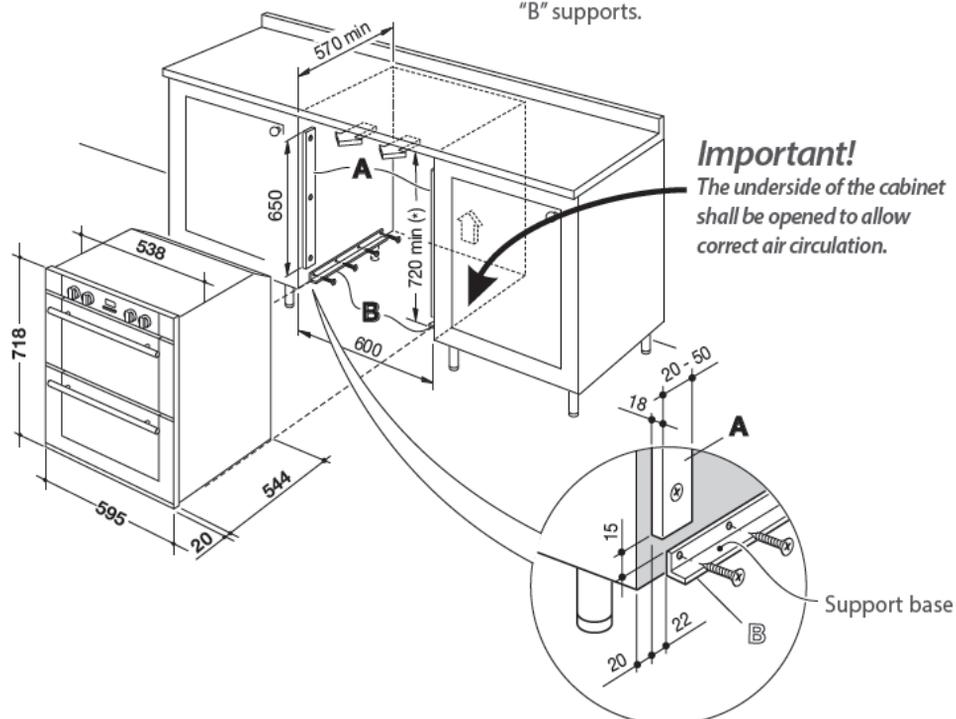

Fig. 3c
- Fig. 3c only, prepare 2 wood uprights "A" (width 20-50 mm, thickness 18 mm, length 650 mm); mount the 2 wood uprights "A" to the cabinet walls as indicated in Fig. 3c.
- Mount the 2 (two) metal supports "B" (supplied with the appliance in a separate kit) as indicated in Fig. 3c).
- Prepare 2 wood uprights "A" (width 20-50 mm, thickness 18 mm, length 650 mm); mount the 2 wood uprights "A" to the cabinet walls as indicated in Fig. 3c.